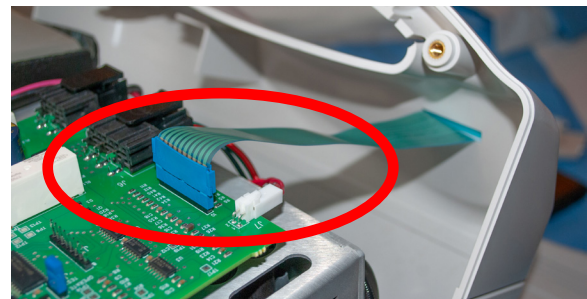

Figure 30 - Step 5 Reconnect ribbon cable
4. Reconnect the membrane ribbon cable to connector J1 on the control board (Figure 30).